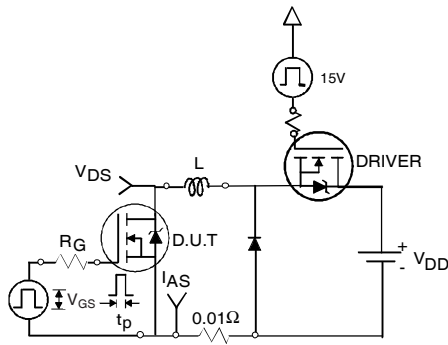

Fig 12a. Unclamped Inductive Test Circuit
- ③ $I_{SD} \leq 25A, di/dt \leq 290A/\mu s, V_{DD} \leq V_{(BR)DSS}, T_J \leq 175^\circ\text{C}$.
- ④ Pulse width $\leq 300\mu s$; duty cycle $\leq 2\%$.
- ⑤ $C_{oss\text{ eff.}}$ is a fixed capacitance that gives the same charging time as C_{oss} while V_{DS} is rising from 0 to 80% V_{DSS} .
- ⑥ Limited by T_{Jmax} ; see Fig 12a, 12b, 15, 16 for typical repetitive avalanche performance.
- ⑦ This value determined from sample failure population. 100% tested to this value in production.
- ⑧ When mounted on 1" square PCB (FR-4 or G-10 Material). For recommended footprint and soldering techniques refer to application note #AN-994.
- ⑨ R_θ is measured at T_J of approximately 90°C .
3. Equation below based on circuit and waveforms shown in Figures 12a, 12b.